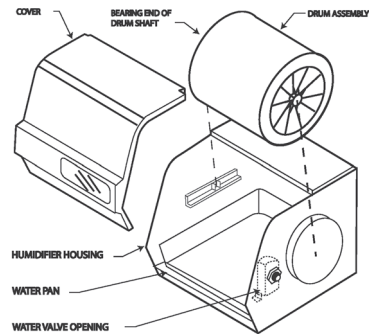

Figure 9-35. Revolving Drum
- Revolving drum (Figure 9-35), where water from a small reservoir is picked up by a revolving pad and exposed to an air stream from the furnace plenum or supply ductwork.